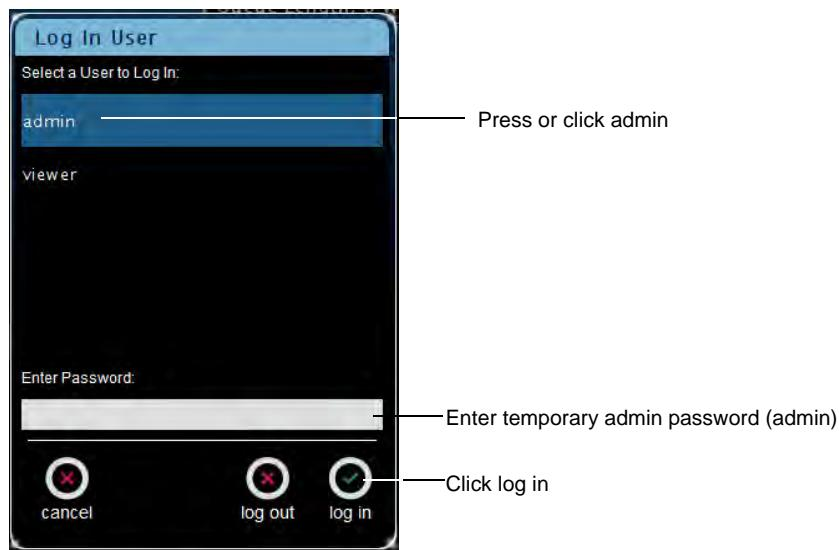

Figure C-2 Log In User Screen
The **Log In User** screen is displayed, as shown in Figure C-2.
10. Click the lock icon to display the **Login Users** screen (shown in Figure C-2).